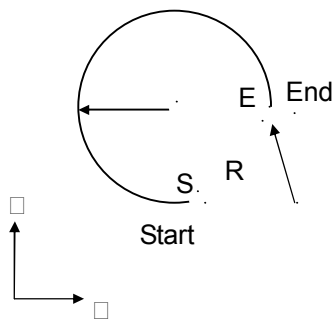

Fig. 3-10 Arc cutting
2. There are two different arc types available for arc cutting (Fig. 3-10)
Ex In Fig. 3-10, an arc is cut with an angle $\leq 180^\circ$ (R)